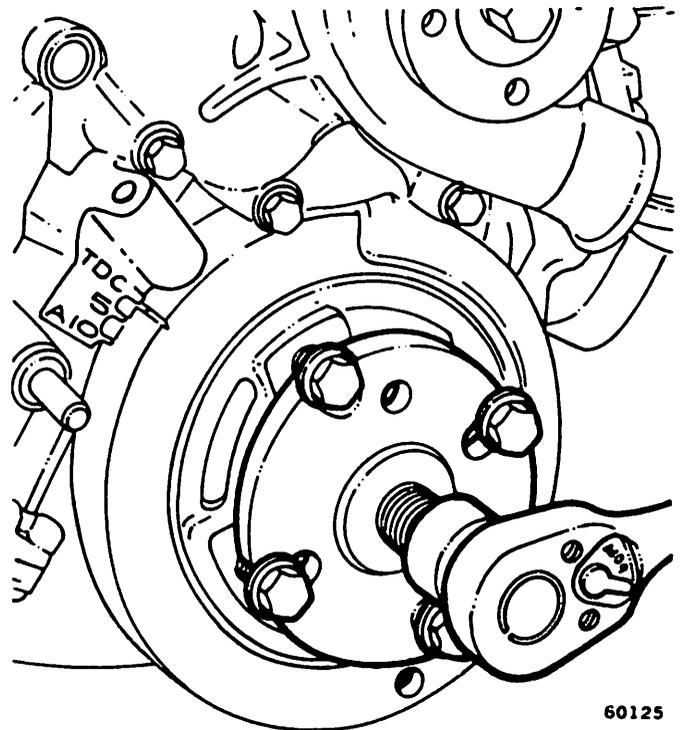

Fig. 1B-151 Vibration Damper Removal
- (1) Loosen damper retaining screw.
- (2) Loosen alternator drive belt.
- (3) Loosen air conditioner compressor drive belt, if equipped, and move aside.
- (4) Loosen power steering pump drive belt, if equipped, and move aside.
- (5) Remove damper pulley retaining bolts. Remove damper pulley from damper.
- (6) Remove damper retaining screw and washer and loosely install screw to prevent damage to screw threads when removal tool is used.
(7) Use Vibration Damper Removal Tool J-21791 to remove damper from crankshaft (fig. 1B-151).